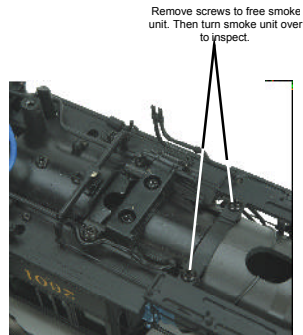

Figure 14
2. Remove the two screws securing the smoke unit inside the shell as seen in Fig. 14.
3. With the board free of the mounting screws, slide the assembly out of the boiler as seen in Fig. 14.